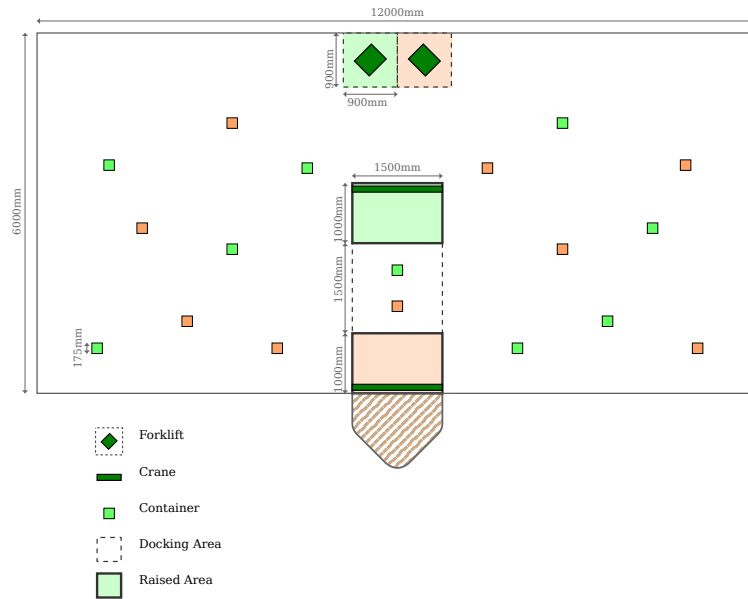

Figure 1: Layout zones and tokens in the arena.
2. The layout of the arena is given in Figure 1. This figure is to scale.
2. Containers are arranged as indicated in Figure 1.